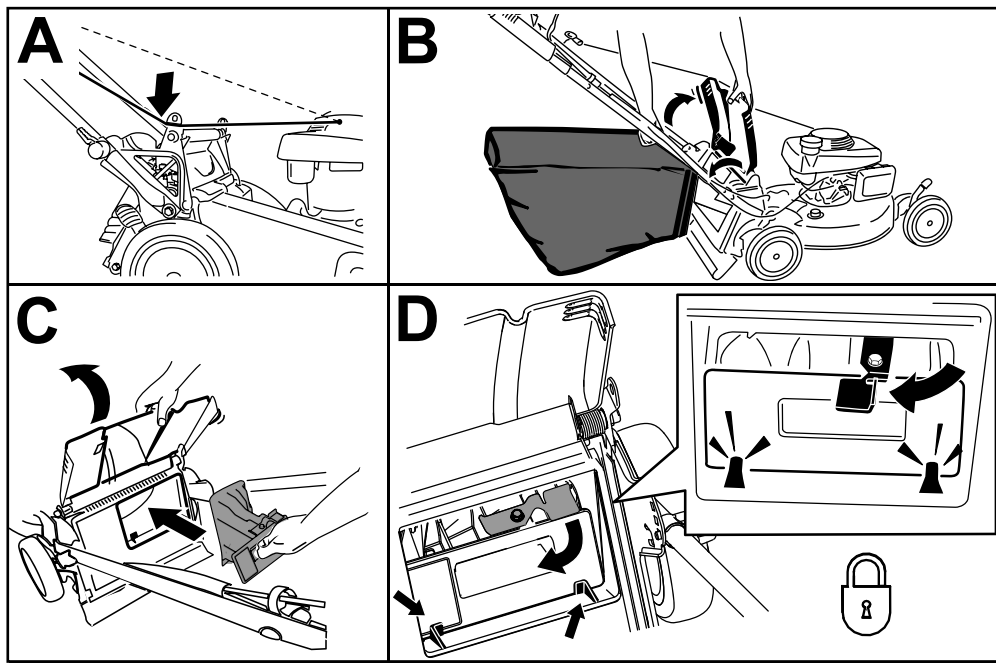

Figure 19
1. Route the starter rope around the lower-rope guide (A of Figure 19).
2. Raise and hold up the rear deflector and lift the grass bag up by the handle off the notches of the handle brackets (B of Figure 19).
3. Install the rear plug (C of Figure 19).
Important: Ensure that the rear plug is locked in place. To lock the plug, firmly push the plug in until it snaps into place behind the tabs, and rotate the lever on the plug to the left (D of Figure 19).